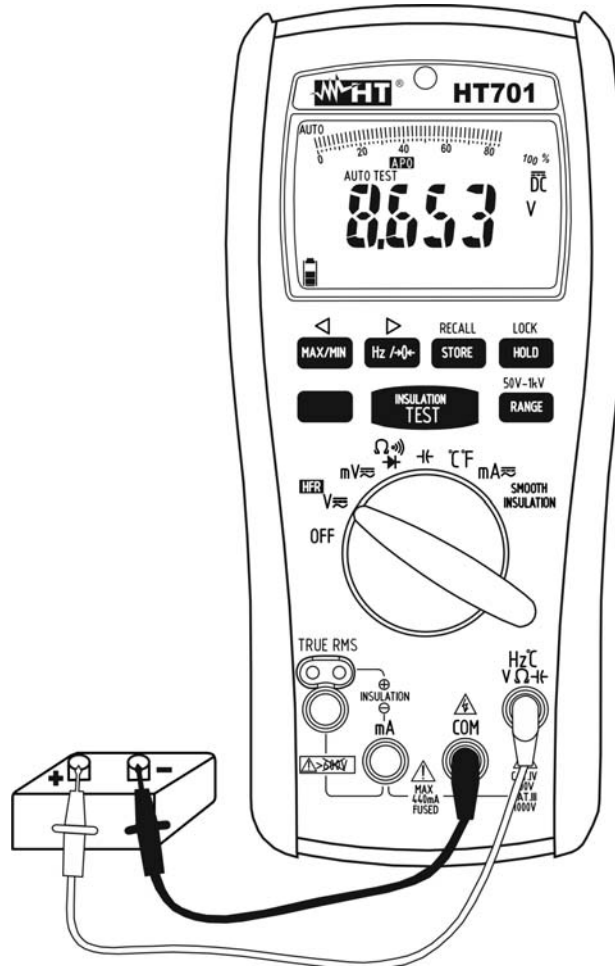

Fig. 2: Use of the instrument for DC voltage measurement
7. When symbol "-" appears on the instrument's display, it means that voltage has the opposite direction with respect to the connection in Fig. 2